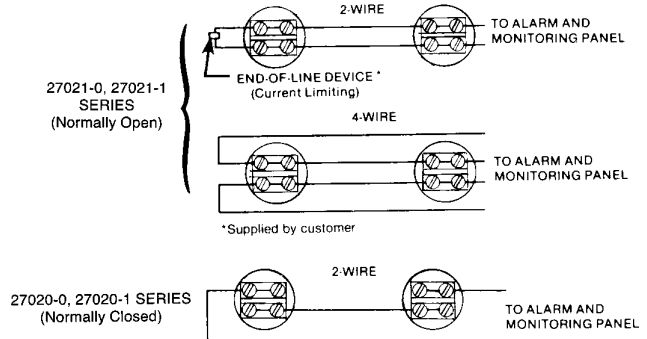

Figure 3: System Wiring
3. Run system wiring through rubber grommets and connect to terminals on detector per Figure 3 observing applicable electrical codes.
3. Connect system wiring to terminals on detector per Figure 3 observing applicable electrical codes.